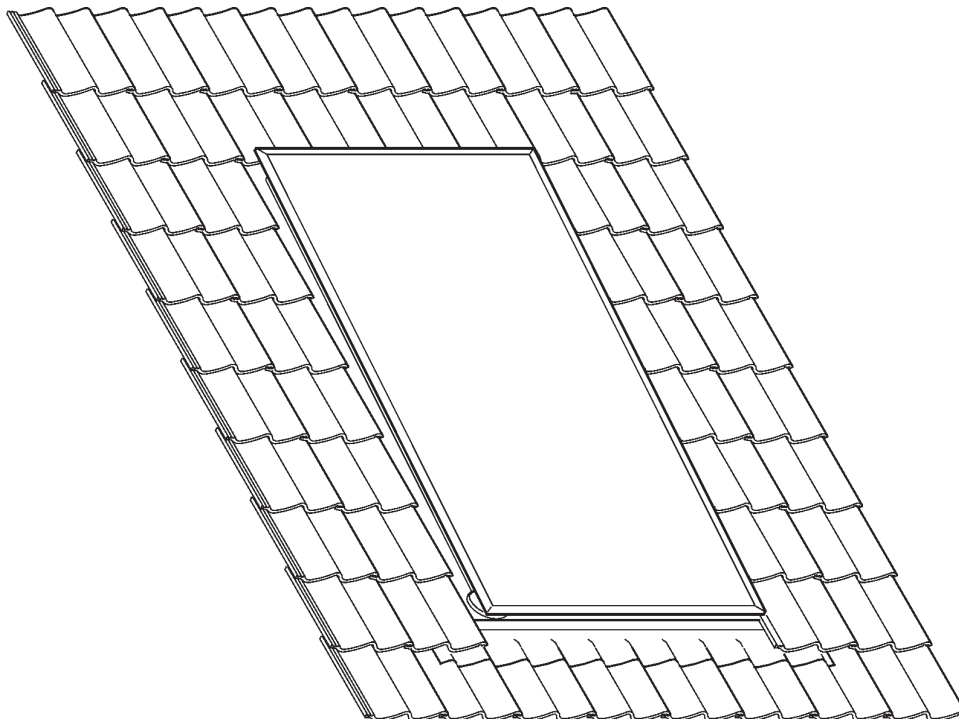

**Fig. 10 - Secure the collectors**
7. Secure each collector to the mounting plates on the flashing sheets using the five M8 bolts and washers supplied (kit items 11 and 12) as shown in detail 'D' in Fig. 10. Tighten all six bolts.